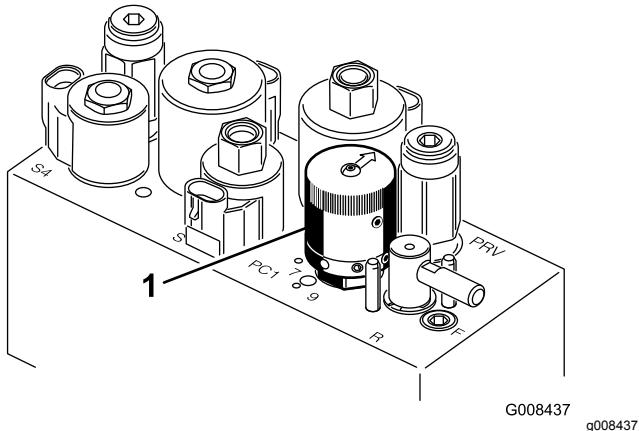

Figure 29
4. To set the reel speed, rotate the knob (Figure 29) until the indicator arrows are in line with the number designating desired setting.